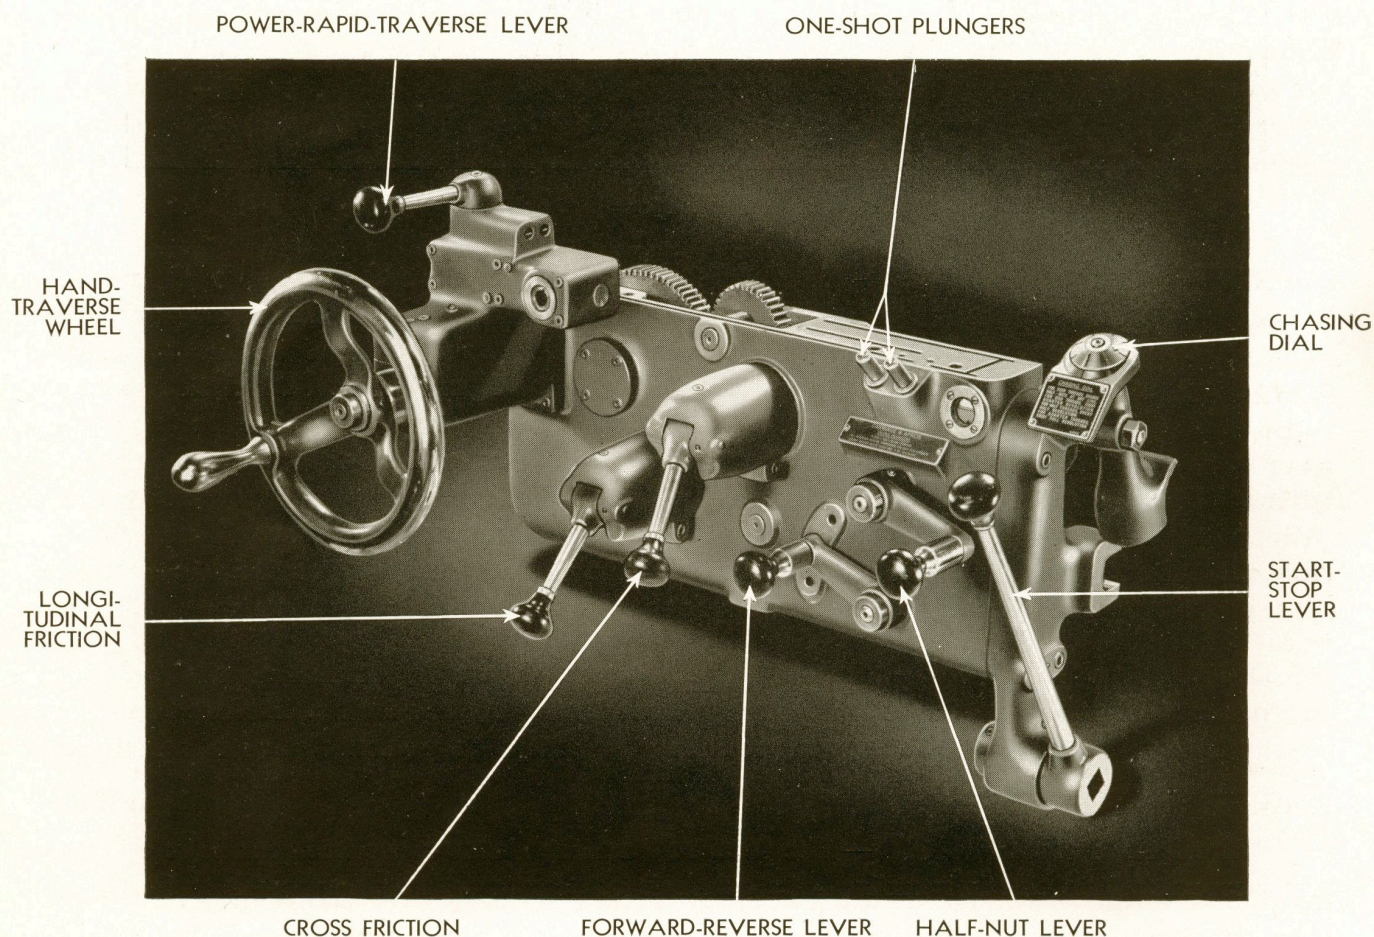

Figure No. 9, Front View of Apron.
**APRON**—The apron, Figure No. 9, is driven by either the feed rod or the leadscrew, depending upon whether the double-bevel pinion or the half-nuts are engaged. The double-bevel pinion is actuated by the forward-reverse lever on the front of the apron and controls the direction of automatic feeding, both longitudinal and cross. The half-nuts are engaged by the half-nut lever, but the direction of travel is controlled by the direction of rotation of the leadscrew. These two levers are interlocking and one must be in its neutral or disengaged position before the other can be moved. The neutral position for the forward-reverse lever is the center hole, and the disengaged position for the half-nut lever is at the top of its arc.
**POWER RAPID TRAVERSE**—When the power rapid traverse is furnished, an additional lever is supplied on the apron directly above the hand-traverse wheel, Figure No. 9, page 14. This lever is directional and so designed that upon its release it snaps back into its neutral position. At the same time that this lever engages the power traverse frictions, it disengages the hand wheel.